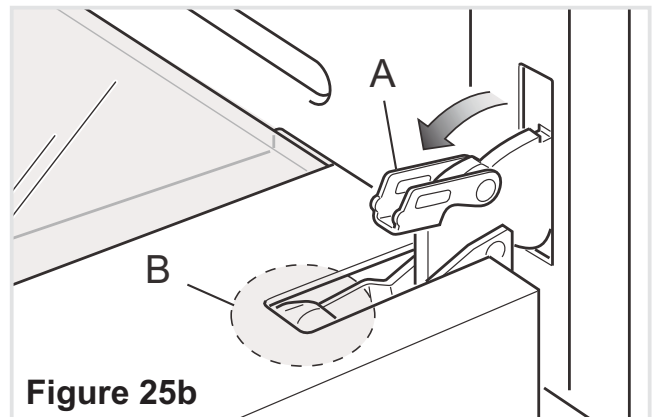

Figure 25b
- Open the lever “A” completely on the left and right hinges (fig. 25b).
- Gently close the door until left and right hinge levers “A” are hooked to part “B” of the door (figs. 25b, 25c).